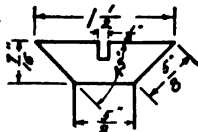

Fig. 30.
(2) The extension lines are always perpendicular to the line to be dimensioned. (Fig. 30.)